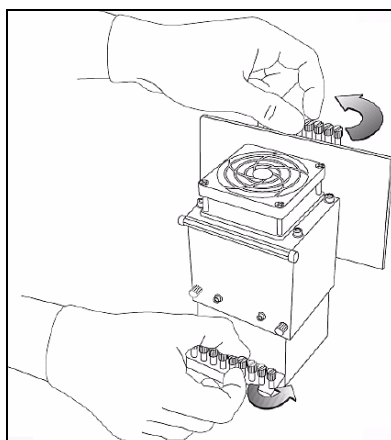

Figure 6-57: Releasing the locking screws
17. Tighten the upper and lower screws that secure the print head in the print block (see figure 6-57 on page 42).